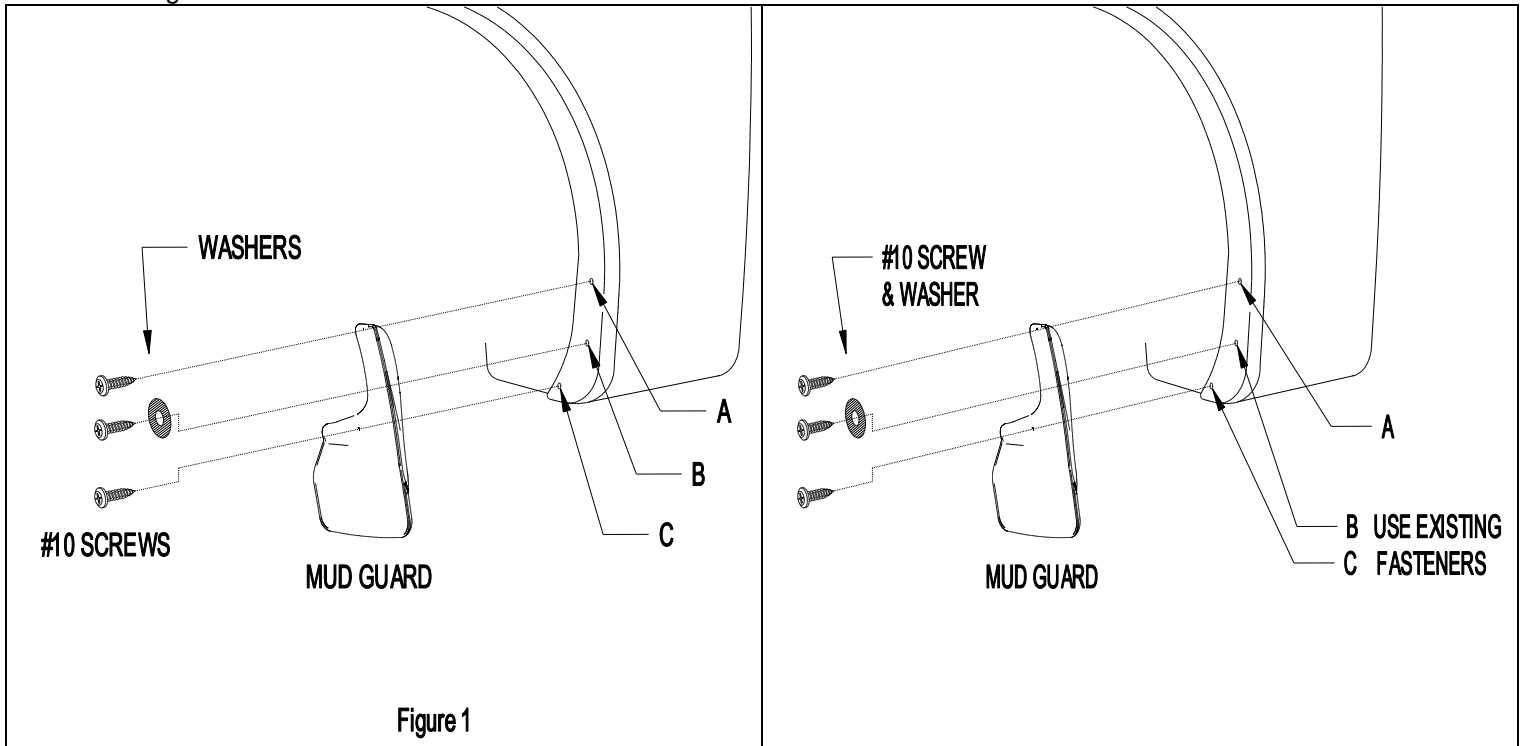

Figure 1
2. Using the mud guard as a template, place the mud guard against fender, mark, center punch and drill 1/8" hole at location B (Figure 1).
4. Mark, center punch and drill 1/8" holes at locations A and C (Figure 1).